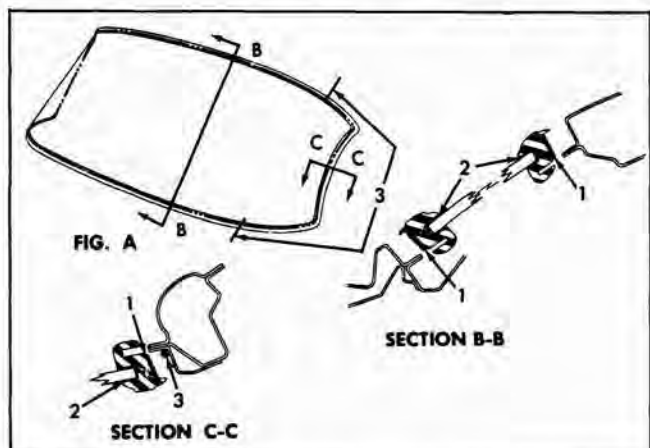

Fig. 12-16 Windshield Sealing
5. Apply a ribbon of medium-bodied sealer completely around base of rubber channel as indicated by 1 (Fig. 12-16).
6. Apply a bead of medium-bodied sealer, approximately 1/4" in diameter to corner of windshield opening rabbet around each side of windshield for distance indicated by 3 (Fig. 12-16).
9. Using a pressure type applicator, seal inner and outer lips of rubber channel to glass as indicated by 2 in (Fig. 12-16) with an approved weatherstrip adhesive. Seals are to extend completely around rubber channel.
7. Using a pressure type applicator, seal inner and outer lips of rubber channel to glass with an approved weatherstrip adhesive #2 (Fig. 12-16).